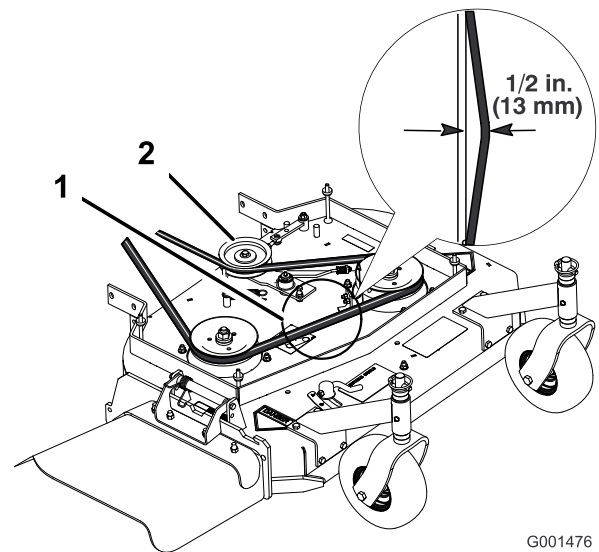

Figure 52
3. Loosen the locknut on the turnbuckle (Figure 52).
4. Rotate the turnbuckle toward the rear of the mower to increase the tension on the belt. Rotate the turnbuckle toward the front of the mower to decrease the tension on the belt (Figure 52).
Note: The proper mower belt tension is 44 to 67 N-m (10 to 15 ft-lb) with the belt deflected 13 mm (1/2 inch) halfway between the pulleys (Figure 52).